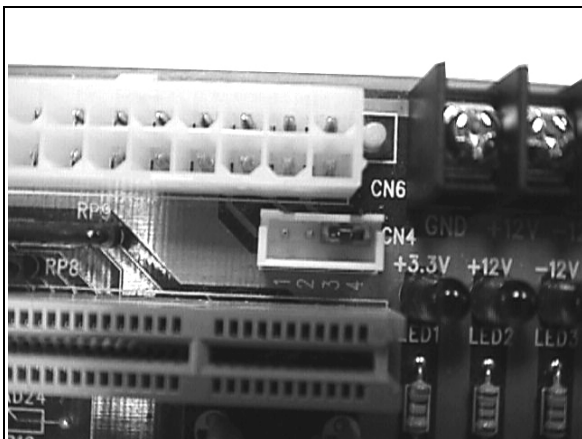

Fig. 5
2. If you use ATX power supply, you may also apply a jumper over pin-3 and pin-4 of CN7. In this application, the 4-pin ATX power control cable is not required, and your ATX power supply will then act as an AT power supply (**Fig. 5**).